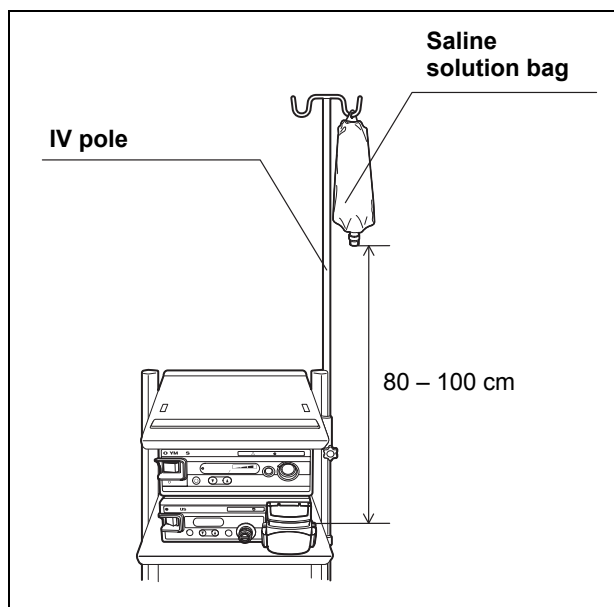

Figure 4.16
1. Adjust the height of the IV pole to position the saline solution bag as shown in Figure 4.16 below.